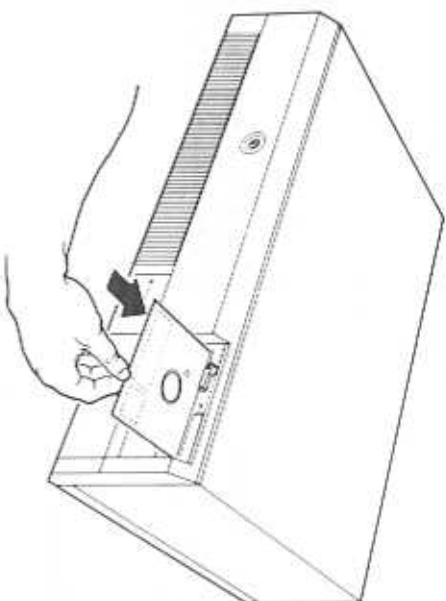

Figure 3-18. Inserting the Diagnostics Diskette
4. Insert the diagnostics diskette into the upper diskette drive (drive A) in the system unit, as shown in Figure 3-18. Detailed instructions are found in section 1.6.